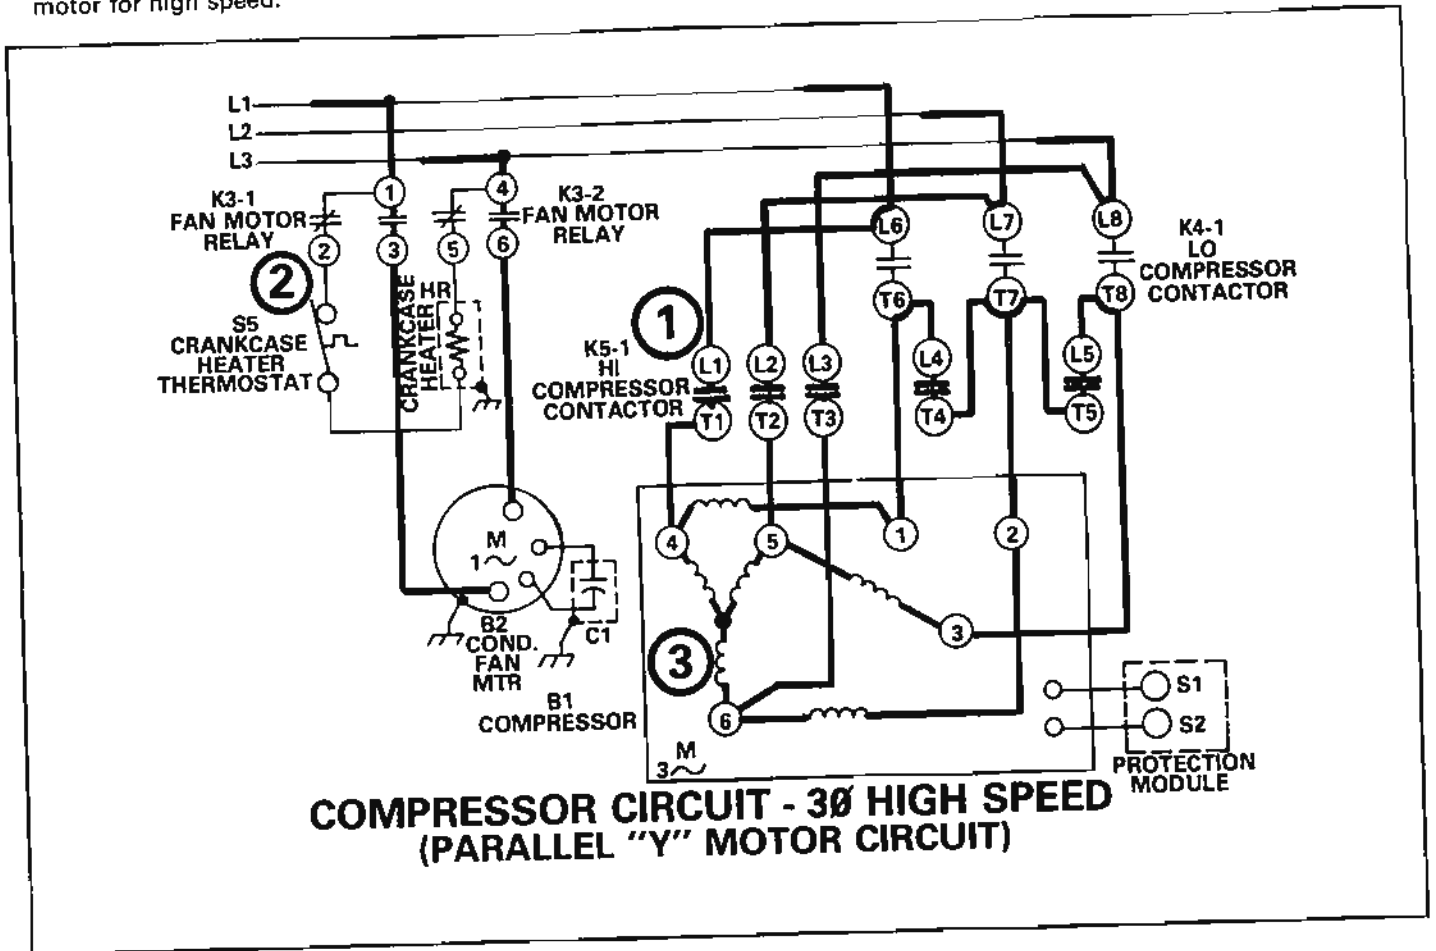

FIGURE 21
- B - Compressor Circuit - High Speed (Figure 21)
**B - Compressor Circuit - High Speed (Figure 21)**